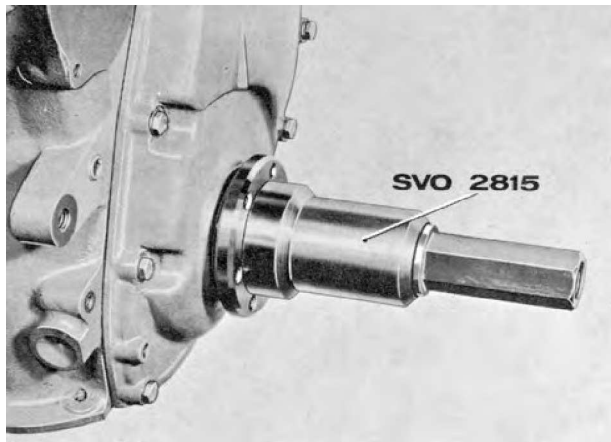

Fig. C11. Fitting the polygon hub (6-cyl. engine)
4. Fit the polygon hub with tool SVO 2815, see Fig. C11. Before fitting, grease the sliding surfaces of the polygon hub. Note the marking, that is, the pop marks on the crankshaft end and polygon hub. Fit the centre bolt and tighten it to a torque, 7-8 kgm (50-57 lb.ft.).